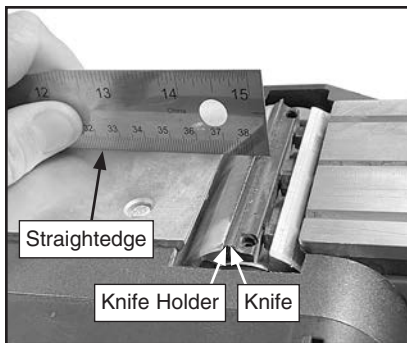

Figure 27. Verifying knife alignment.
5. Reverse or replace knife, then slide knife into cutterhead. Align knife edge with knife holder edge (see **Figure 27**).
6. Lay straightedge across rear shoe and extend over cutterhead without touching front foot (see **Figure 27**). Move straightedge across full length of knife.